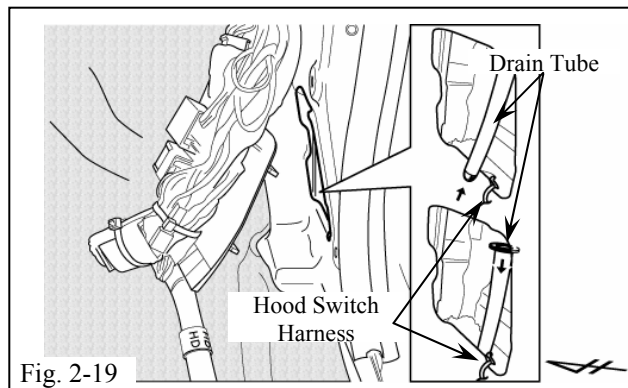

Fig. 2-19
- (aa) Replace the Drain Tube, routing the Hood Switch Harness around the Drain Tube. (Fig. 2-19)
- (1) Verify that the Drain Tube is properly seated.